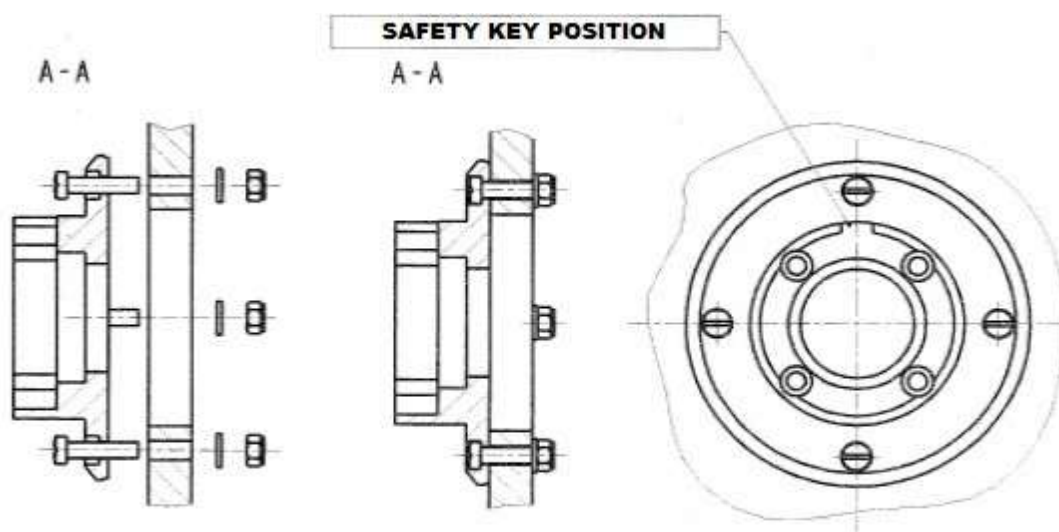
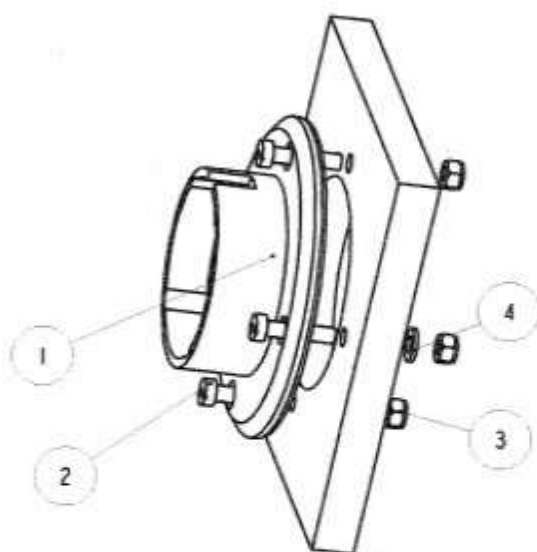

FIG. 1
FIG. 2
2. Mount the fixing flange **(1)** (see **Fig.1** and **Fig.2**), using N°4 M6x25 screws **(2)**, N°4 washers **(4)** and N°4 M6 self-locking nuts **(3)**. Lend pay attention to the position of the safety key which must be as shown in **Fig.1**.